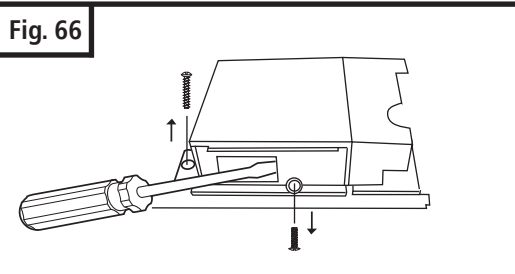

Fig. 67
- Slide power board slightly out to make room to accept terminal block on the power board pin connections as shown in Fig. 67*.